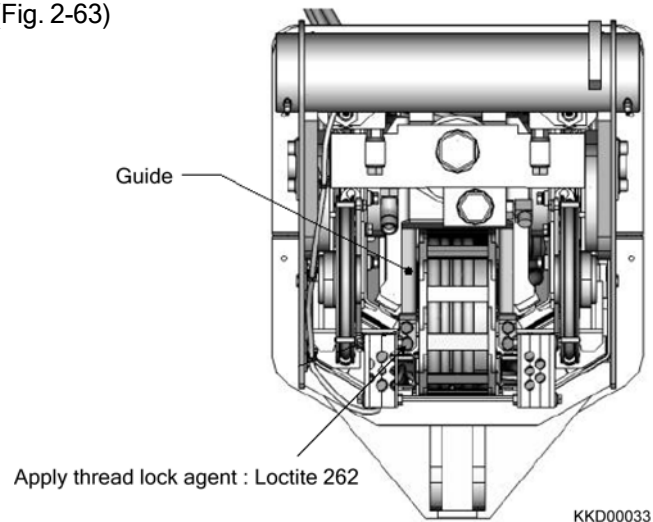

Fig. 2-63
12) Install the guide. (Fig. 2-63)